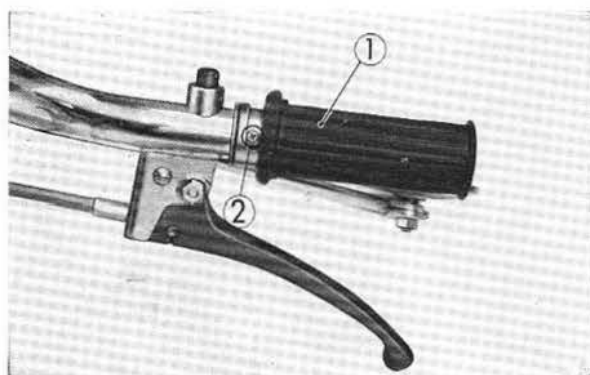

Fig. 1-30 ① Grip rubber ② Screw
(1) Adjustments of Throttle Grip and Throttle Cable
- ① When excessive play exists in the direction parallel to the shaft, turn up the grip rubber and check the screw for looseness. (Fig. 1-30)